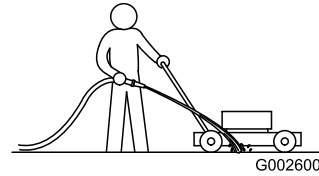

Figure 42
1. With the engine running on a flat paved surface, spray a stream of water in front of the **right** rear wheel (Figure 42).